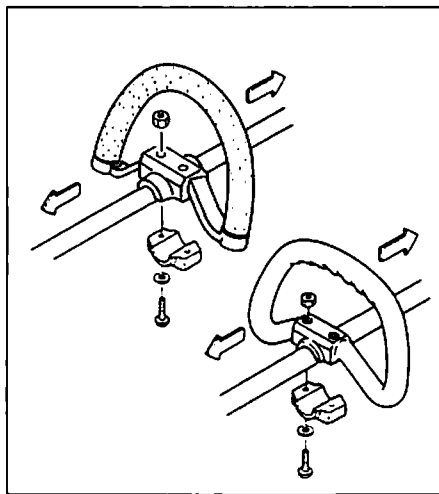

Fig. 1-2
#### Installation of handle (Fig. 1-2)
#### Installation du manche (Fig. 1-2)
**Montaje del manillar (Fig. 1-2)**